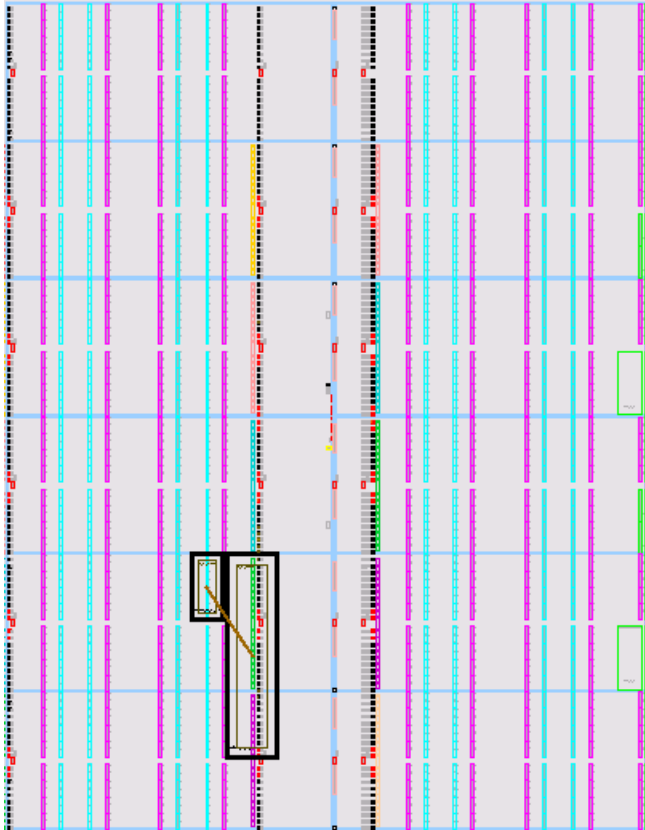

Figure 14: Final AG Ranges
6-2-3. The resulting floorplan should look similar to the image in Figure 14.
- 6-2-4.** Verify the pins required for U2_RP_Count are within the AG Range. The pins AD21, AH27, AE21 and AH28 must be included in the rectangle of the AG Range for U2_RP_Count as shown in Figure 14. Also note that the rectangle extends to the right of the IO column. This is critical as there are I/O routing resources on the right side of this IO column that must be included in the AG Range or the router will fail implementation. This is because all RM routing resources must be within the RP region as defined by the AG Range.